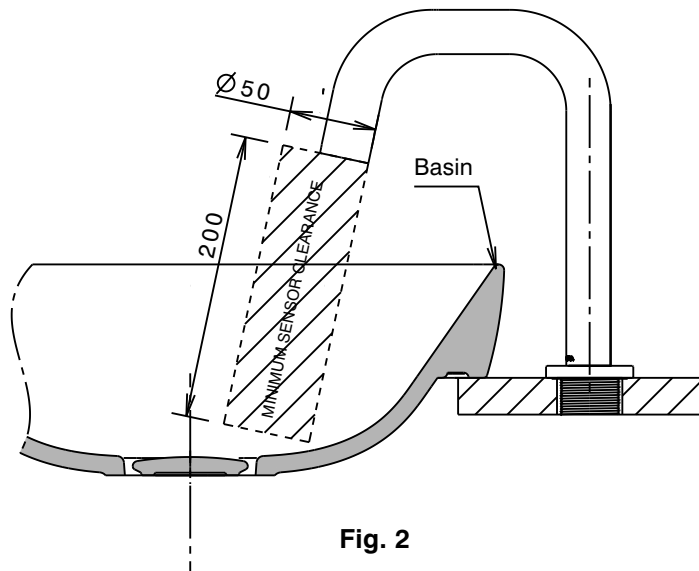

Fig. 2
- \* Before drilling the mounting hole in the bench for the tap, ensure there is nothing interfering with the sensor clearance area as shown in Fig. 2.